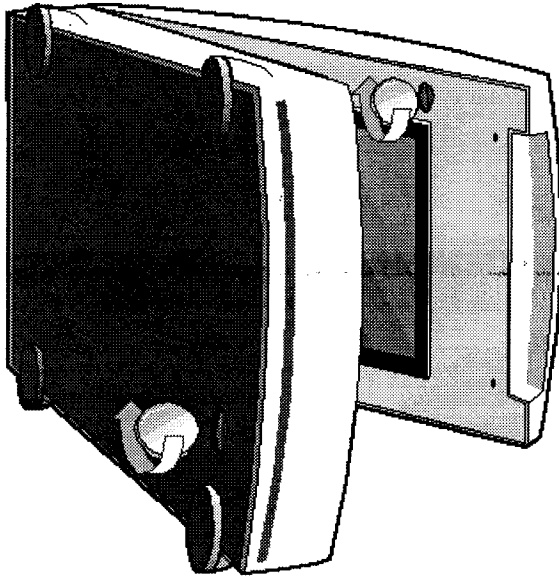

Fig. 2.5 Locking the densitometer and the transparency module.
5. Lock the locking screws with a small coin by rotating clockwise (Figure 2.5). Push the locking screw in and tighten it.